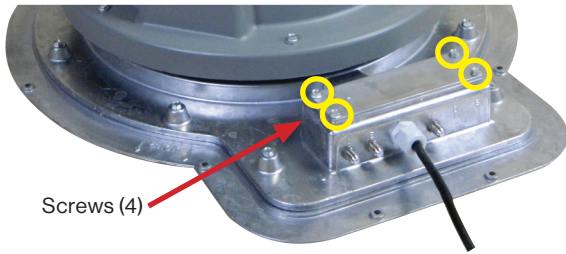

FIGURE 11. Remove the four screws on the cover.
1. Remove the four 5/16" screws from the cable cover, and remove the cable cover (figure 11).